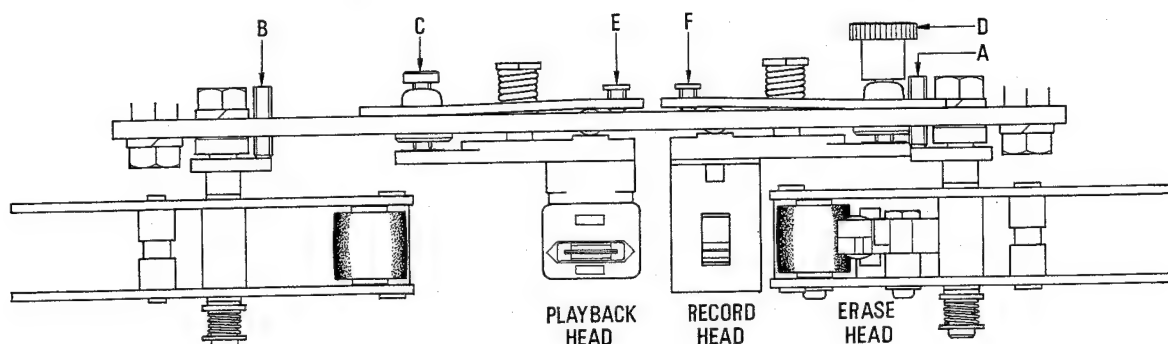

Fig. 5.14 Head Height/Azimuth Adjustment
- (1) Load the Track Viewer (DA09012A), and check the positions of playback and record heads. While adjustment, check to insure that the L-R center of each head coincides in position with the middle point between two lines (0.3 mm distance) on the Track Viewer.
- (2) If the L-R center deviates from the middle point, refer to Fig. 5.14 and correct the head height deviation by adjusting screws E and F, together with adjusting C and D for correcting head azimuth.